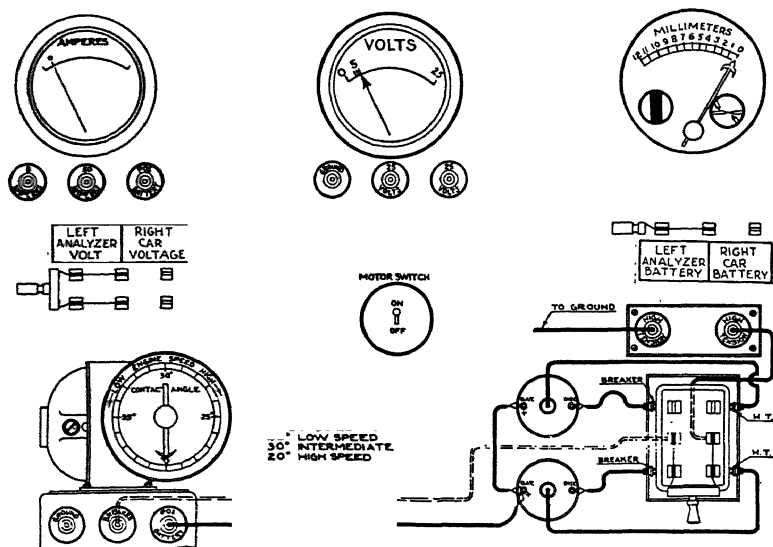

Fig. 20. Equipment for Comparative Coil Test
**Coil Testing Notes.** The ignition coil can be tested either in position on the car, or the coil can be removed and placed on the equipment for testing. In the latter case, placing the coil on the "ground plate" grounds the coil. For example, the two coils in the chart, Fig. 20, showing connections for comparative coil test (where coil from car is tested against a new coil) of the same type are shown
**Comparative Coil Test.** In this test, Fig. 20, the coil from the car is tested against the same make and type of coil known to be efficient. The double pole switch at the right of the bench on the analyzer is used for this test and the connections are made as shown in the chart. By throwing the switch first to one closed position and then the other the comparative readings of the two coils can be noted. In the chart the two coils are assumed to be placed on the "ground plate" of the analyzer. However, the test can be made equally well with one coil